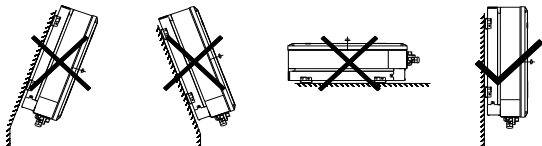

Figure 5-2 Installation position
(2)The installation surface is perpendicular to the horizontal line. Refer to the Figure 5.2.